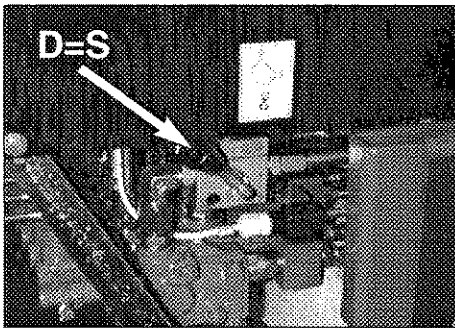

fig. 19
- Position lever **D** of oil diverter crane-outriggers ( - **S**) on **S** (fig. 19 plate **DE2347**).